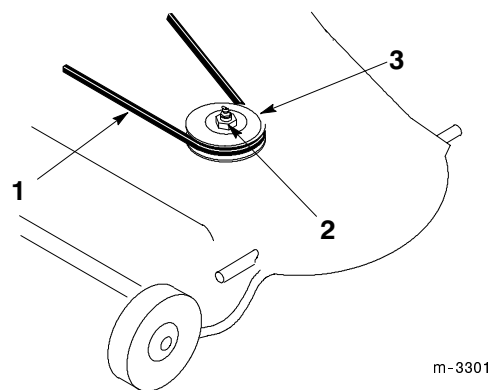

Figure 7
2. Remove the nut and lock washer retaining the pulley (Fig. 7). Remove the single groove pulley.